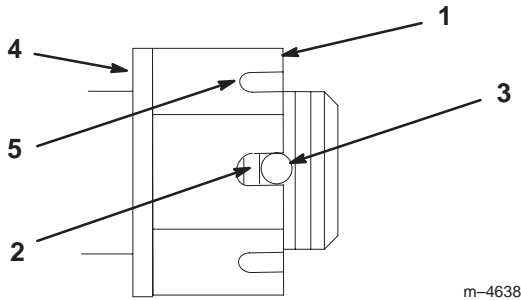

Figure 53
3. Torque the slotted nut to 125 ft-lb (170 N·m) (Fig. 53).
4. Check the distance from the bottom of the slot in the nut to the inside edge of the hole. Two threads or less should be showing (Fig. 53).
5. If more than two threads are showing, remove the nut and install a washer between the hub and nut (Fig. 53).
6. Torque the slotted nut to 125 ft-lb (170 N·m) (Fig. 53).
7. Tighten the nut until the next set of slots line up with the hole in the shaft (Fig. 53).